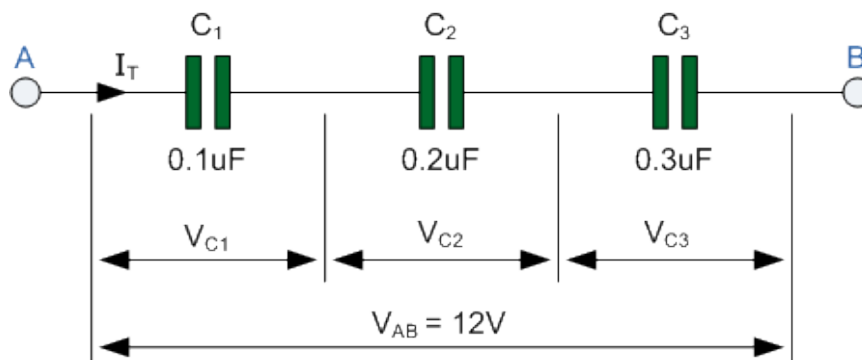

Figure 2: Capacitors in Series
1. Connect three capacitors on the bread board in the series combination as shown in figure 2.